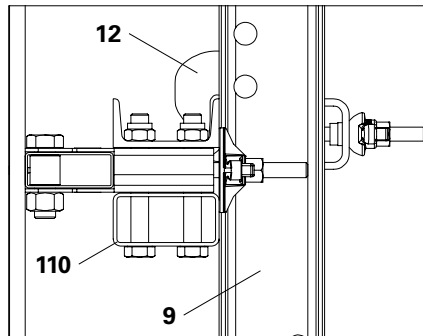

Fig. C4.04a
6. Mount Waler Fixation U100 – U120 (12) and secure in position by tightening the quick jack nut. (Fig. C4.04a + C4.04b)